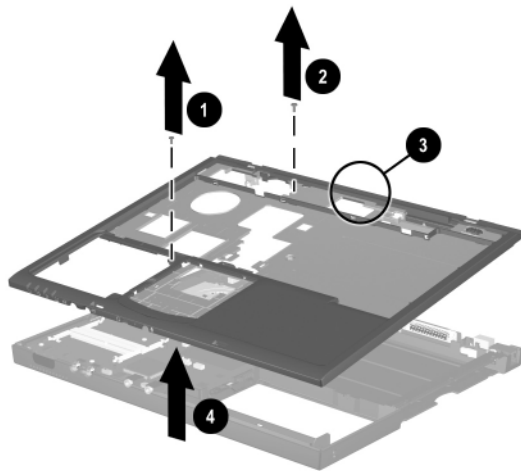

Figure 5-22. Removing the Top Cover
5. **For Evo Notebook N610c models only**—Remove the PM2.0 $\times$ 4.0 ❶ and TM2.5 $\times$ 7.0 ❷ screws that secure the top cover to the base enclosure (Figure 5-22).
6. Insert a flat blade screwdriver into the slot ❸ on the rear edge of the top cover to disengage the cover from the I/O bracket.
7. Lift the top cover straight up and remove it from the base enclosure ❹.